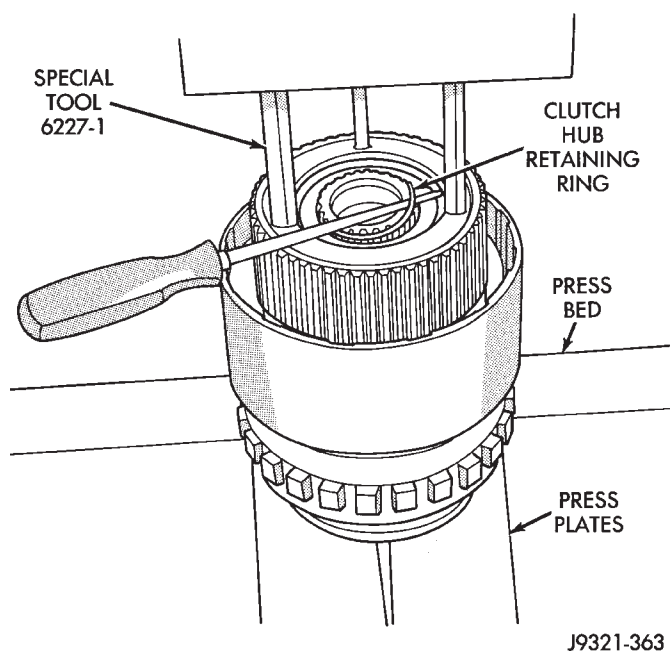

Fig. 208 Direct Clutch Hub Retaining Ring Removal
(5) Remove direct clutch hub retaining ring (Fig. 208).